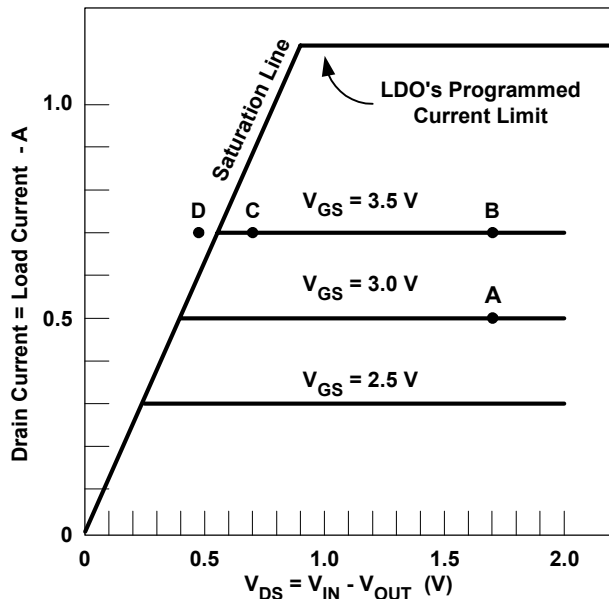
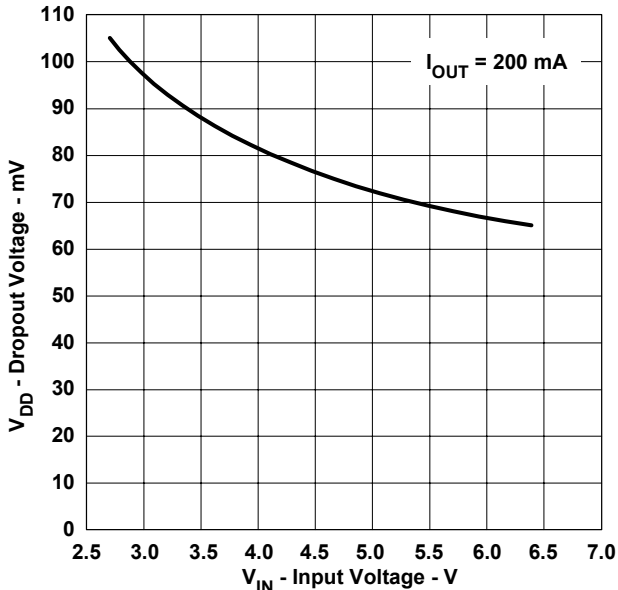

Fig. 3 Operating region of an LDO's N-channel pass element.
Fig. 7. TPS79901 dropout voltage vs. input voltage.
Fig. 3 shows the operating region of an LDO's N-channel pass element. The range of operation is limited in the x-axis by the saturation region of the pass element, and limited in the y-axis by either the pass element's saturation region or by the IC's programmed current limit. In order to operate properly and maintain a regulated output voltage, the pass element must operate within the boundaries set by these two lines. In the example, the drain-to-source voltage of 1.7 V and the drain current of 500 mA set the operating point at "A." At this point, the LDO sets the pass element's gate-to-source voltage at 3 V to maintain regulation. A line drawn through the origin and point "A" represents the 3.4 Ω resistance.
Consider a change to the static conditions in the example: if the load resistance decreases (an increase in load current), the LDO must react to maintain regulation. If it doesn't react, the LDO has a higher voltage drop across the pass element which causes the output voltage to fall out of regulation. The LDO must decrease the pass element's resistance by increasing the gate-to-source voltage on the FET. When the gate-to-source voltage increases, the operating point moves upward, assuming a fixed input and output voltage. If $I_{OUT}=700$ mA, the error amplifier increases the pass element's gate-to-source voltage to 3.5 V to maintain regulation. This corresponds to "B." A line drawn through the origin and point "B" now represents a pass element resistance of 2.4Ω . Fig. 3 shows that with a drain-to-source voltage of 1.7 V, the LDO's maximum current draw is only limited by the maximum programmed current limit.
LDO datasheets can only specify the IC's dropout voltage under a limited number of operating conditions. Few datasheets provide a graph like that shown in Fig. 3. For all other conditions, the user must interpolate the data to determine the dropout voltage at a specific output current. This task is surprisingly easy. As an example, consider an application that requires $V_{OUT} = 3$ V at 170 mA with an input voltage that varies between 3.15 V and 3.45 V. The designer has chosen a TPS79330 LDO and needs to know if it can be ensured that the LDO doesn't enter dropout.
Table 1 shows the datasheet's ensured dropout voltage from the parametric table. The datasheet shows that the maximum dropout voltage (ensured over all temperatures) for a 3.0 V output at 200 mA is 200 mV. The minimum input voltage of 3.15 V for this application requires the effective dropout voltage be less than 150 mV at 200 mA. For this regulator, the actual dropout is less than 200 mV since the current is less than 200 mA, but the datasheet does not specify the dropout voltage at 170 mA. When operating in dropout, the LDO pass element is at its minimum $R_{DS(on)}$ which is equivalent to operating on the saturation line like the one shown in Fig. 3. This minimum resistance is calculated by dividing the dropout voltage by the test current. The TPS79330 pass element minimum $R_{DS(on)}$ is shown in Equation (3).
Another factor affecting an LDO's minimum dropout resistance is the input voltage to the device. This is a second-order effect, but is worth noting. The higher output voltage options require a higher input voltage, which allows the device to drive the pass element harder, and in turn provides a slightly lower resistance. Most discrete FET datasheets show a change in $R_{DS(on)}$ versus gate-to-source voltage. Some LDO datasheets provide a graph (Fig. 7) of dropout versus input voltage, but this is rare. Even without a graph, this information is evident from the dropout data shown in Fig. 4. The 3.0-V option (TPS79330) in Fig. 3 has a 200-mV dropout voltage while the 4.75-V option (TPS793475) has a 125-mV dropout voltage. This is a 37 % reduction in dropout voltage.